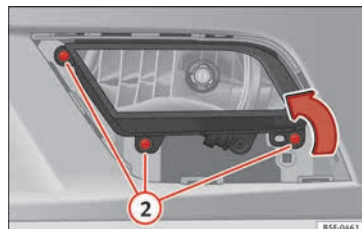

Fig. 111 Front fog light.
- Remove the bolts (3x) » **Fig. 111** ② to remove the fog light.